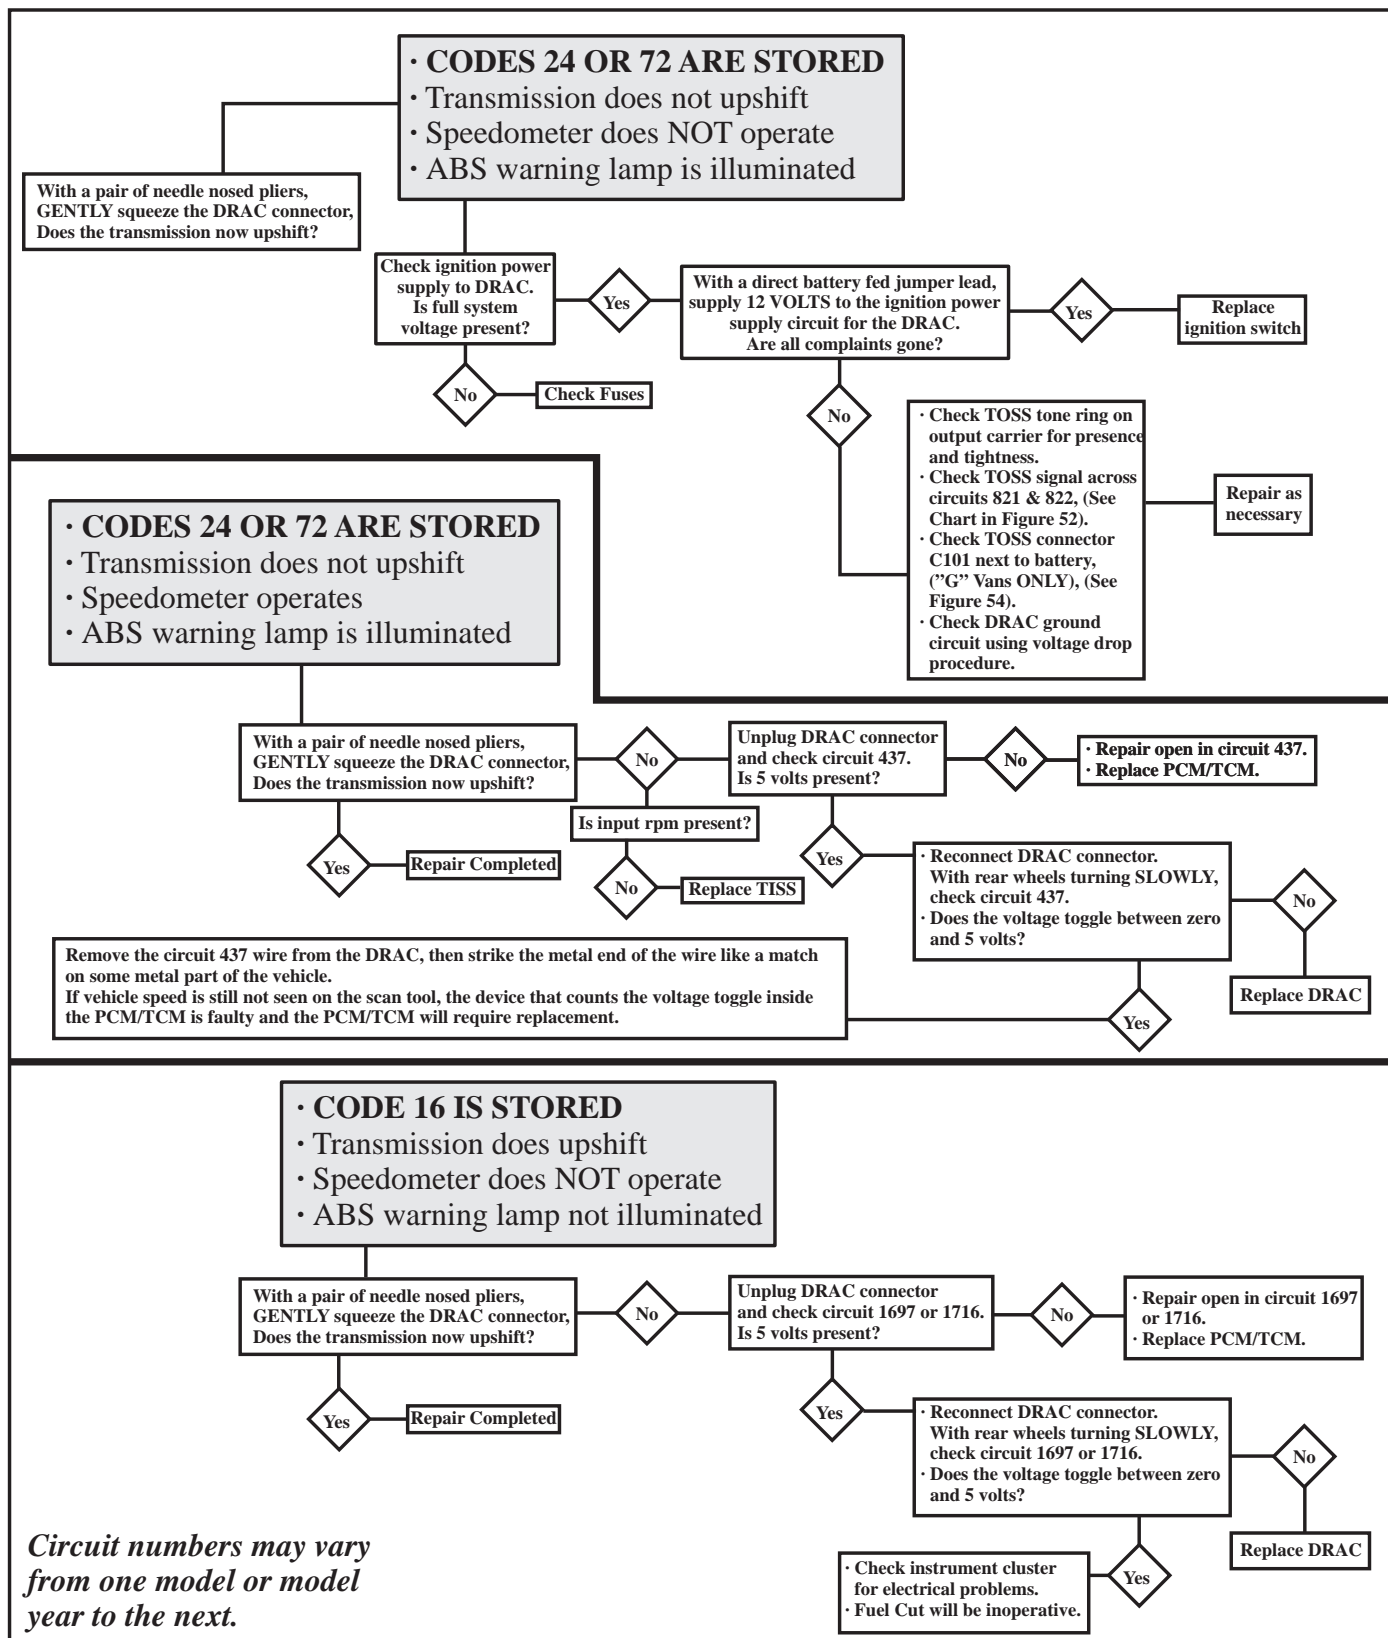

Figure 51
- ISUZU NPR, Chevy Forward and GMC Tiltmaster Tilt cab trucks, when equipped with the GM 5.7L gas engine and 4L80E transmission will have the same VSS system with a DRAC as a GM built "P" van and is diagnosed the same as the system in Figure 50 also using the diagnostic tree in Figure 51.
Refer to Figure 51